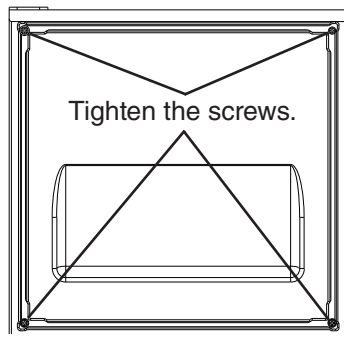

**Fig. 17**
- 5) Fasten the overlay panel to the door using the four M4×25 pan head screws provided. **Snug the screws, but do not tighten.** See Fig. 17.